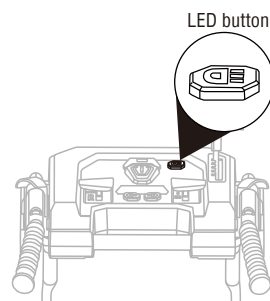

Fig. 11B
2. To turn on the lights, press the LED button on the control panel. (All three lights will turn on simultaneously. Fig.11B).